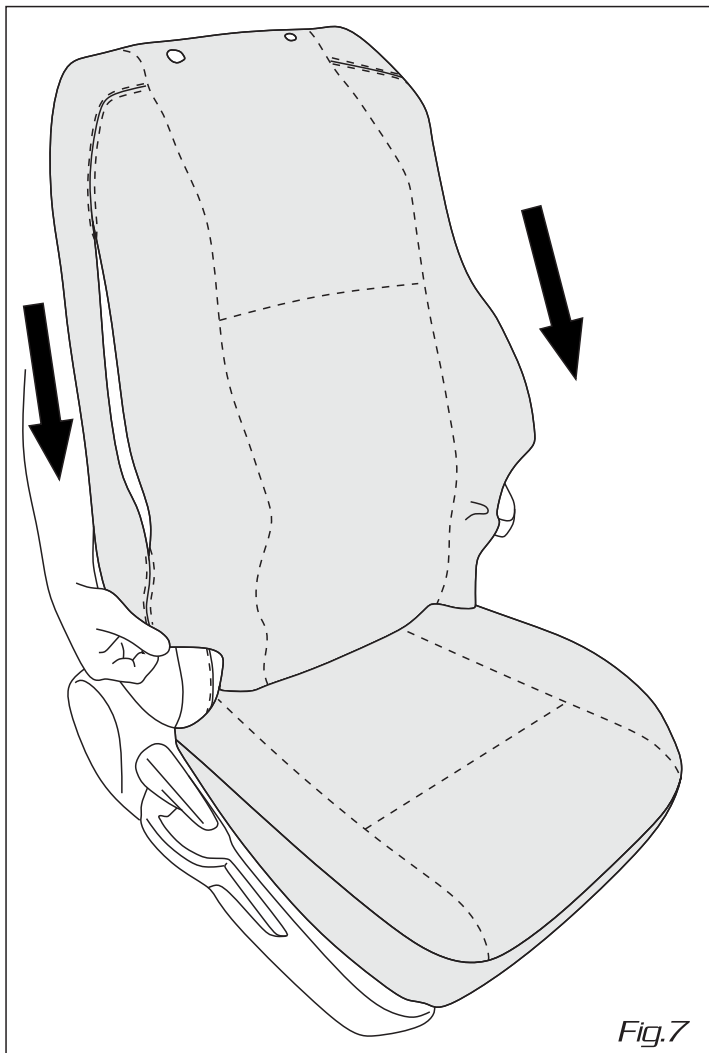

Fig.7
7. Slide backrest cover evenly from both sides over seat backrest (Fig.7).